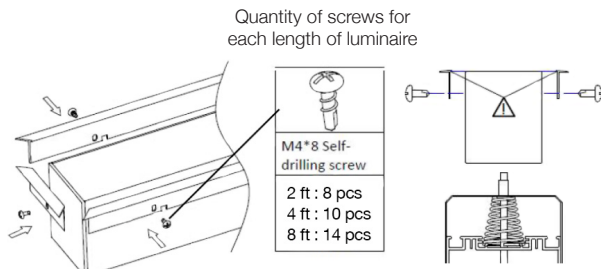

Fig. 8.3
3. Install the flange bars to the housing with the M4x8 self-drilling screws that are provided in the kit. (Fig. 8.3)